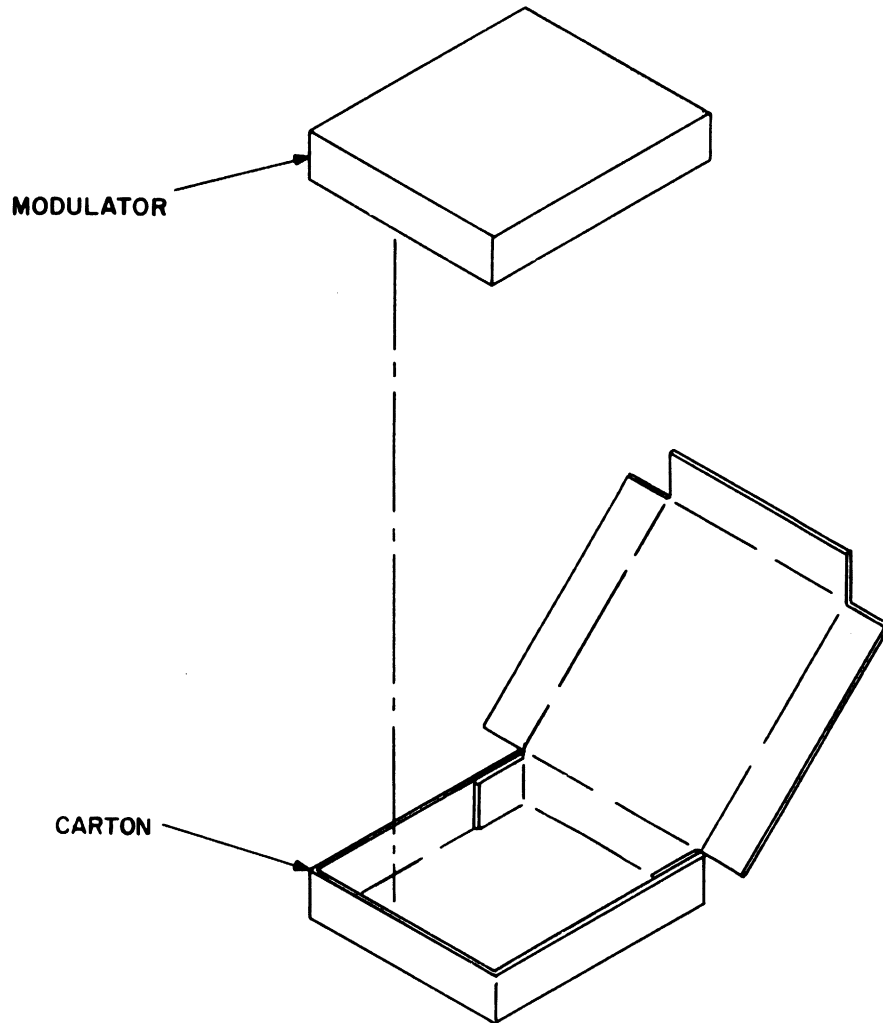

Figure 2-5. Packaging Diagram, Model 1020A
a. If the original wrappings and carton have been saved, use them to package the equipment as shown in figure 2-5.